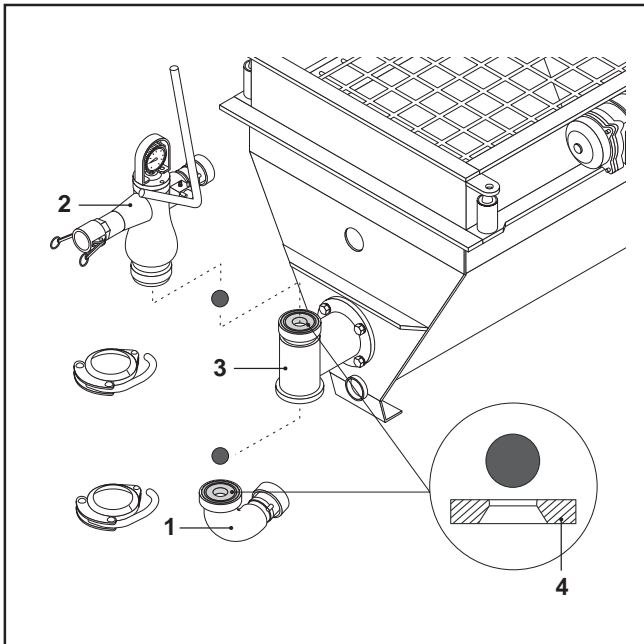

FIG.32
- Disassemble the intake collector (FIG.32-REF.1) and the flow valve body (FIG.32-REF.2).
- Carefully wash these elements and the intake valve body (FIG.32-REF.3) remained fixed to the machine.
**If the valve seats are also disassembled (FIG.32-REF.4), re-mount them correctly, respecting the positions indicated in FIG.32.**